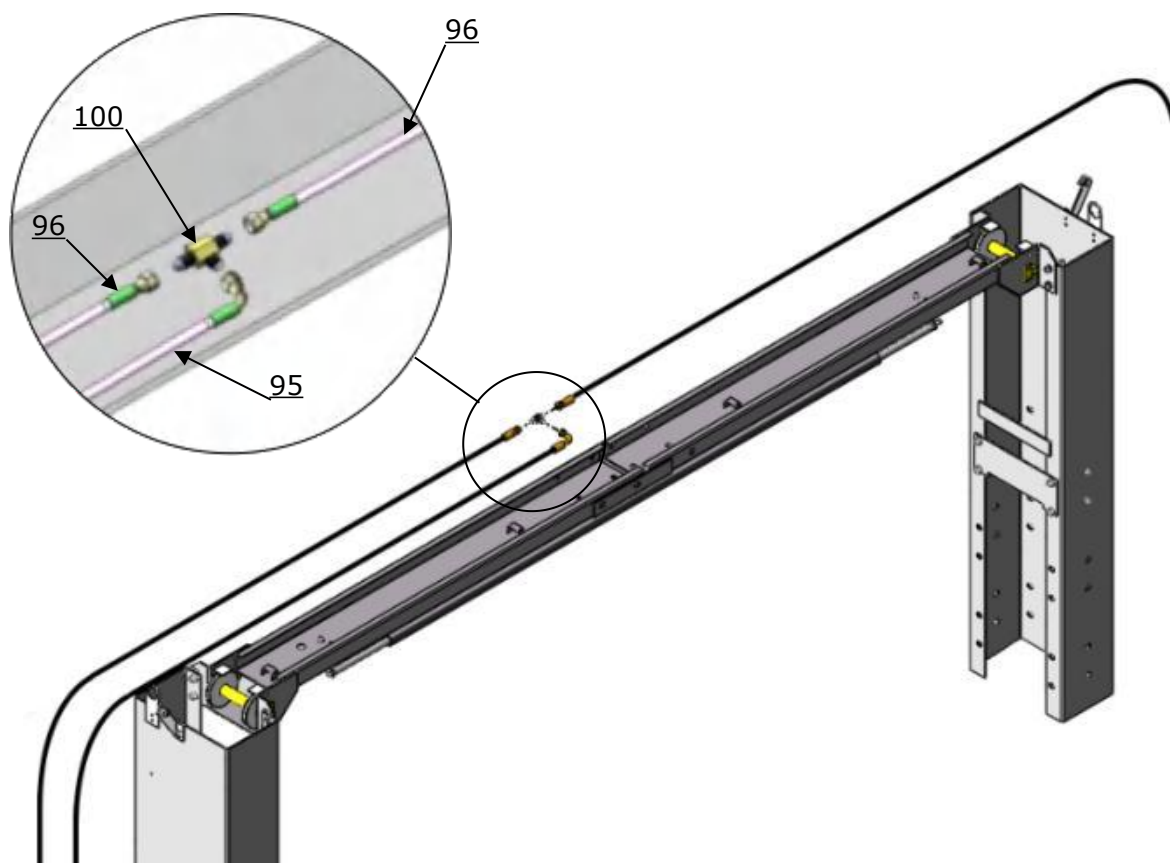

Fig.35
3. Oil hose installation of low setting.(Fig.35)